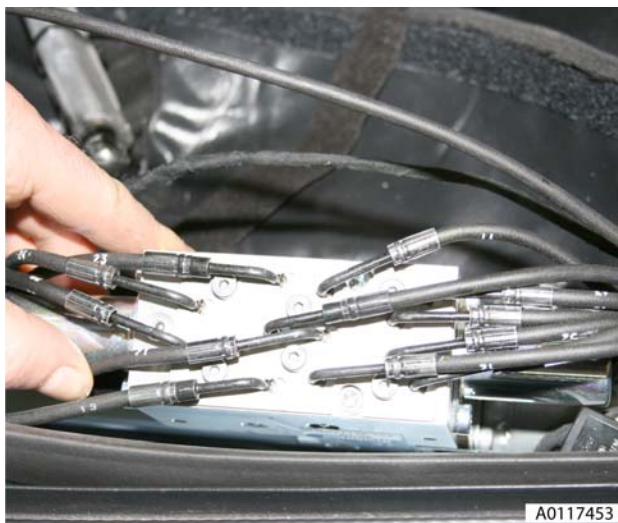

Figure 10
12. Loosen (x6) screws on pump retaining plate (see Figure 10).